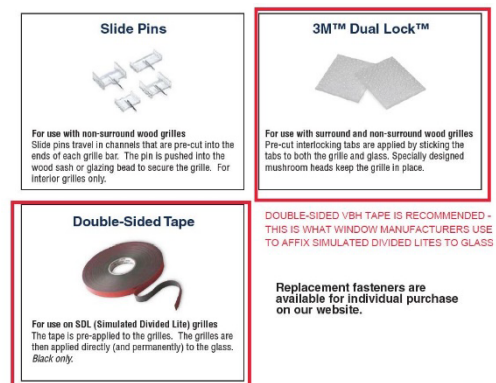

Fig 1, by Applicant: Proposed adhesives for applying wood grid to existing fiberglass window installation.
- Staff requested that the applicant provide information regarding the durability of the proposed wood muntins being added to the surface of the existing glass and fiberglass windows with adhesive tape. Staff also requested to applicant to provide any examples of past cases that proves this durability. (*See figure 1*) The applicant provided the following response: